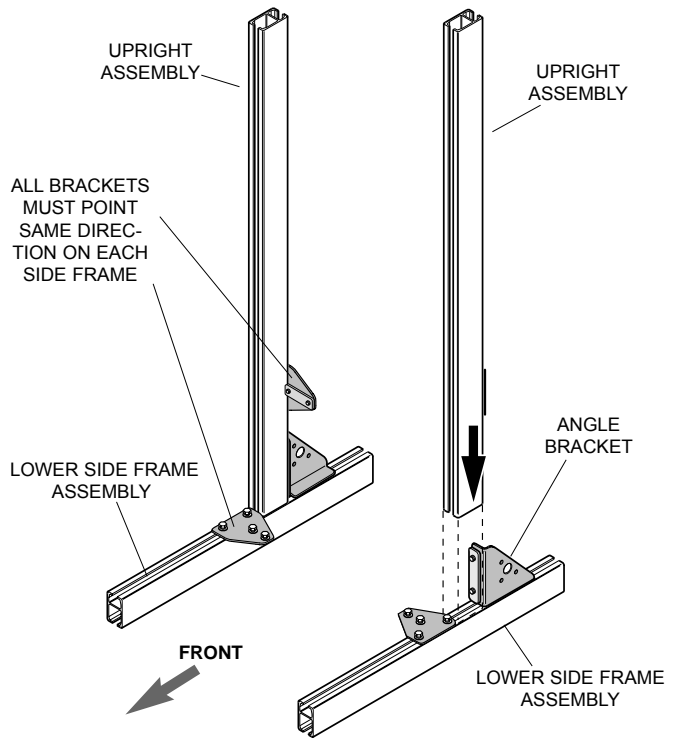

Figure 4.
4. Assemble one upright to corresponding lower side frame assembly by sliding onto angle bracket. Tighten. Repeat for other side (Fig. 4).